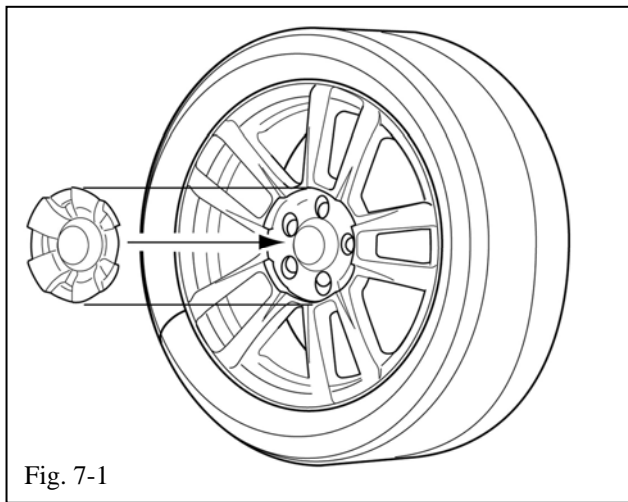

Fig. 7-1
- (a) Place the center caps on the wheels. Gently push the cap into the wheel until the cap snaps into place (Fig. 7-1)